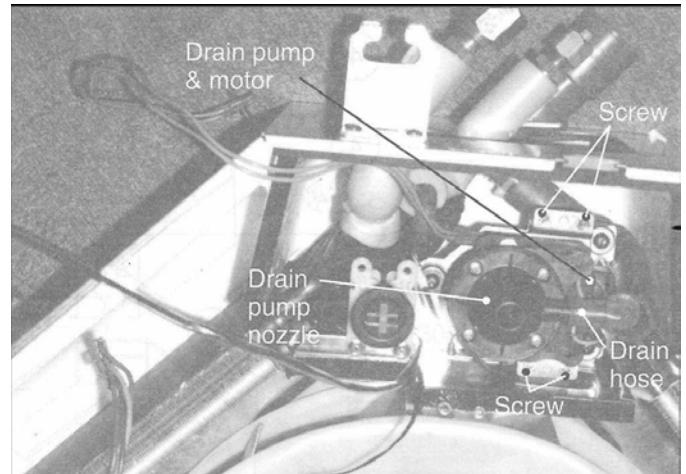

Fig. 17
6. Pull out the drain hose from the drain pump nozzle (Fig. 17).